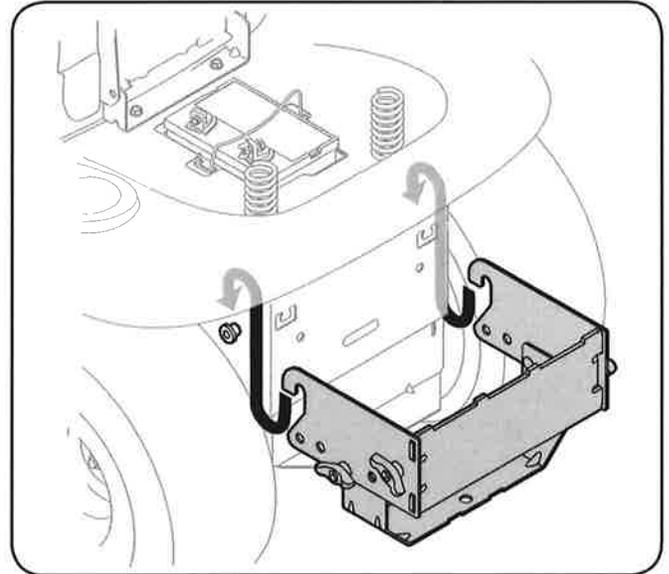

Figure 7
1. Place the hooked ends of the mounting assembly over the shoulder bolts, as in Figure 7, on the tractor and line up the hitch support bracket center hole with the hole on the tractor's hitch.